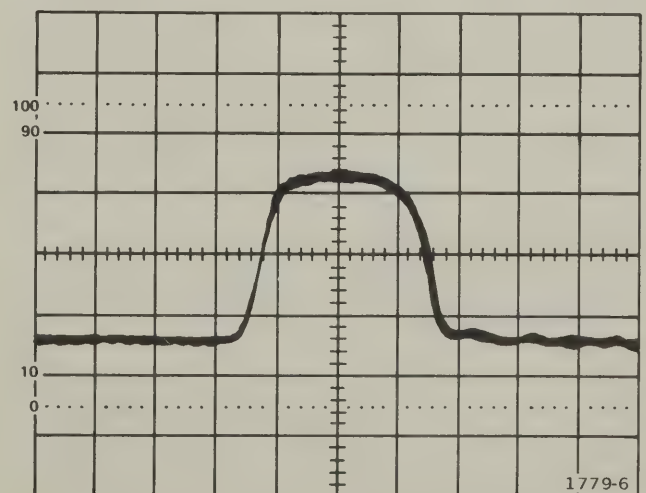

Fig. 6-11. Current waveform when high-speed timing is correctly adjusted.
g. **ADJUST**—C1253, C1233, R1179, R1185, and R1175 for a symmetrical, flat-top waveform similar to that in Figure 6-11.